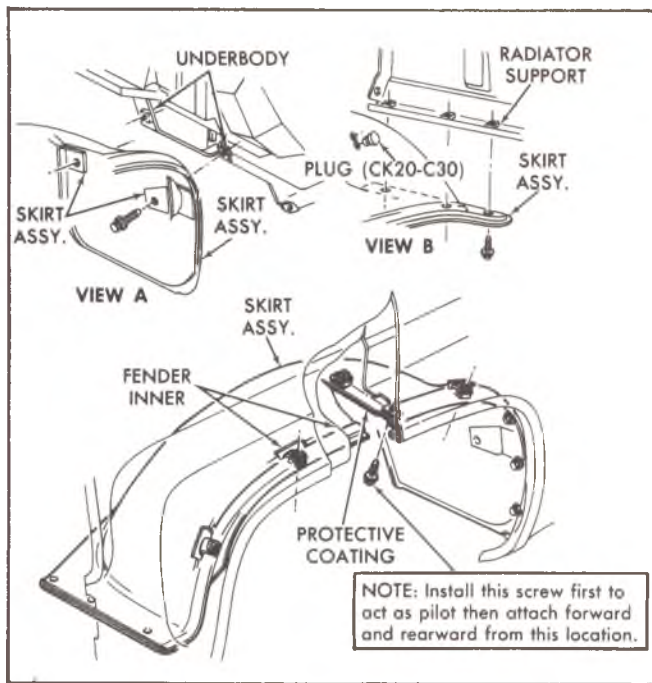

Fig. 9—Fender Skirt Assembly—CK Series
9. Remove bolts at each fender skirt to cab underbody (fig. 9).
11. Remove screws securing fender skirts to radiator support bottom. (Fig. 9).
## FRONT FENDER AND SKIRT (FIGS. 9 AND 10)